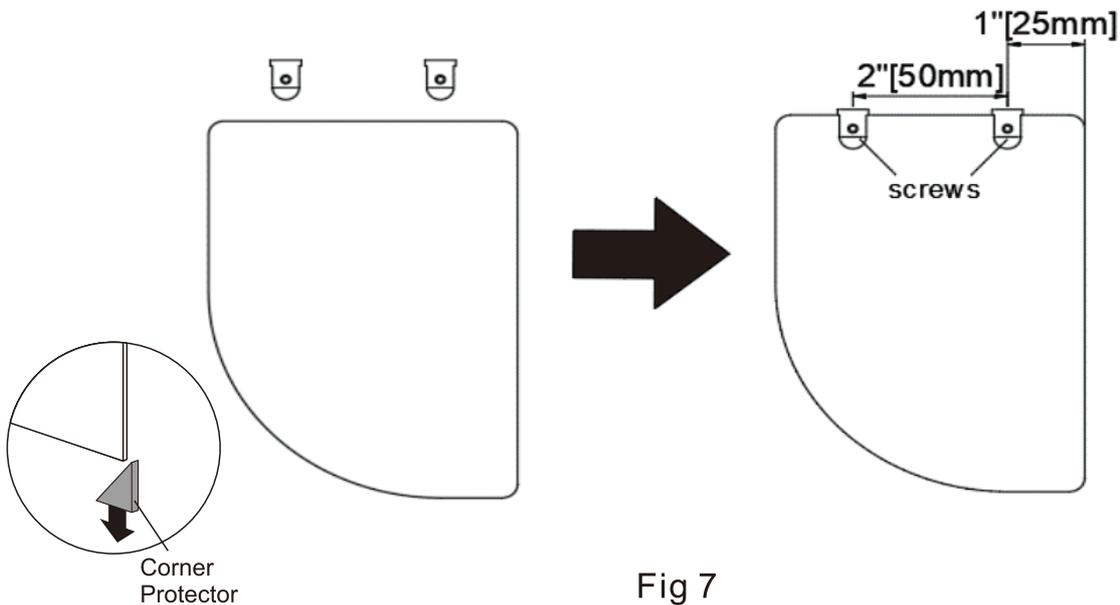

Fig 7
1. Carefully remove the **Corner Protectors** from the **Glass Shelves [06]**. Install **Brackets [15]** to the **Glass Shelves [06]** according to the measurements in Fig 7.